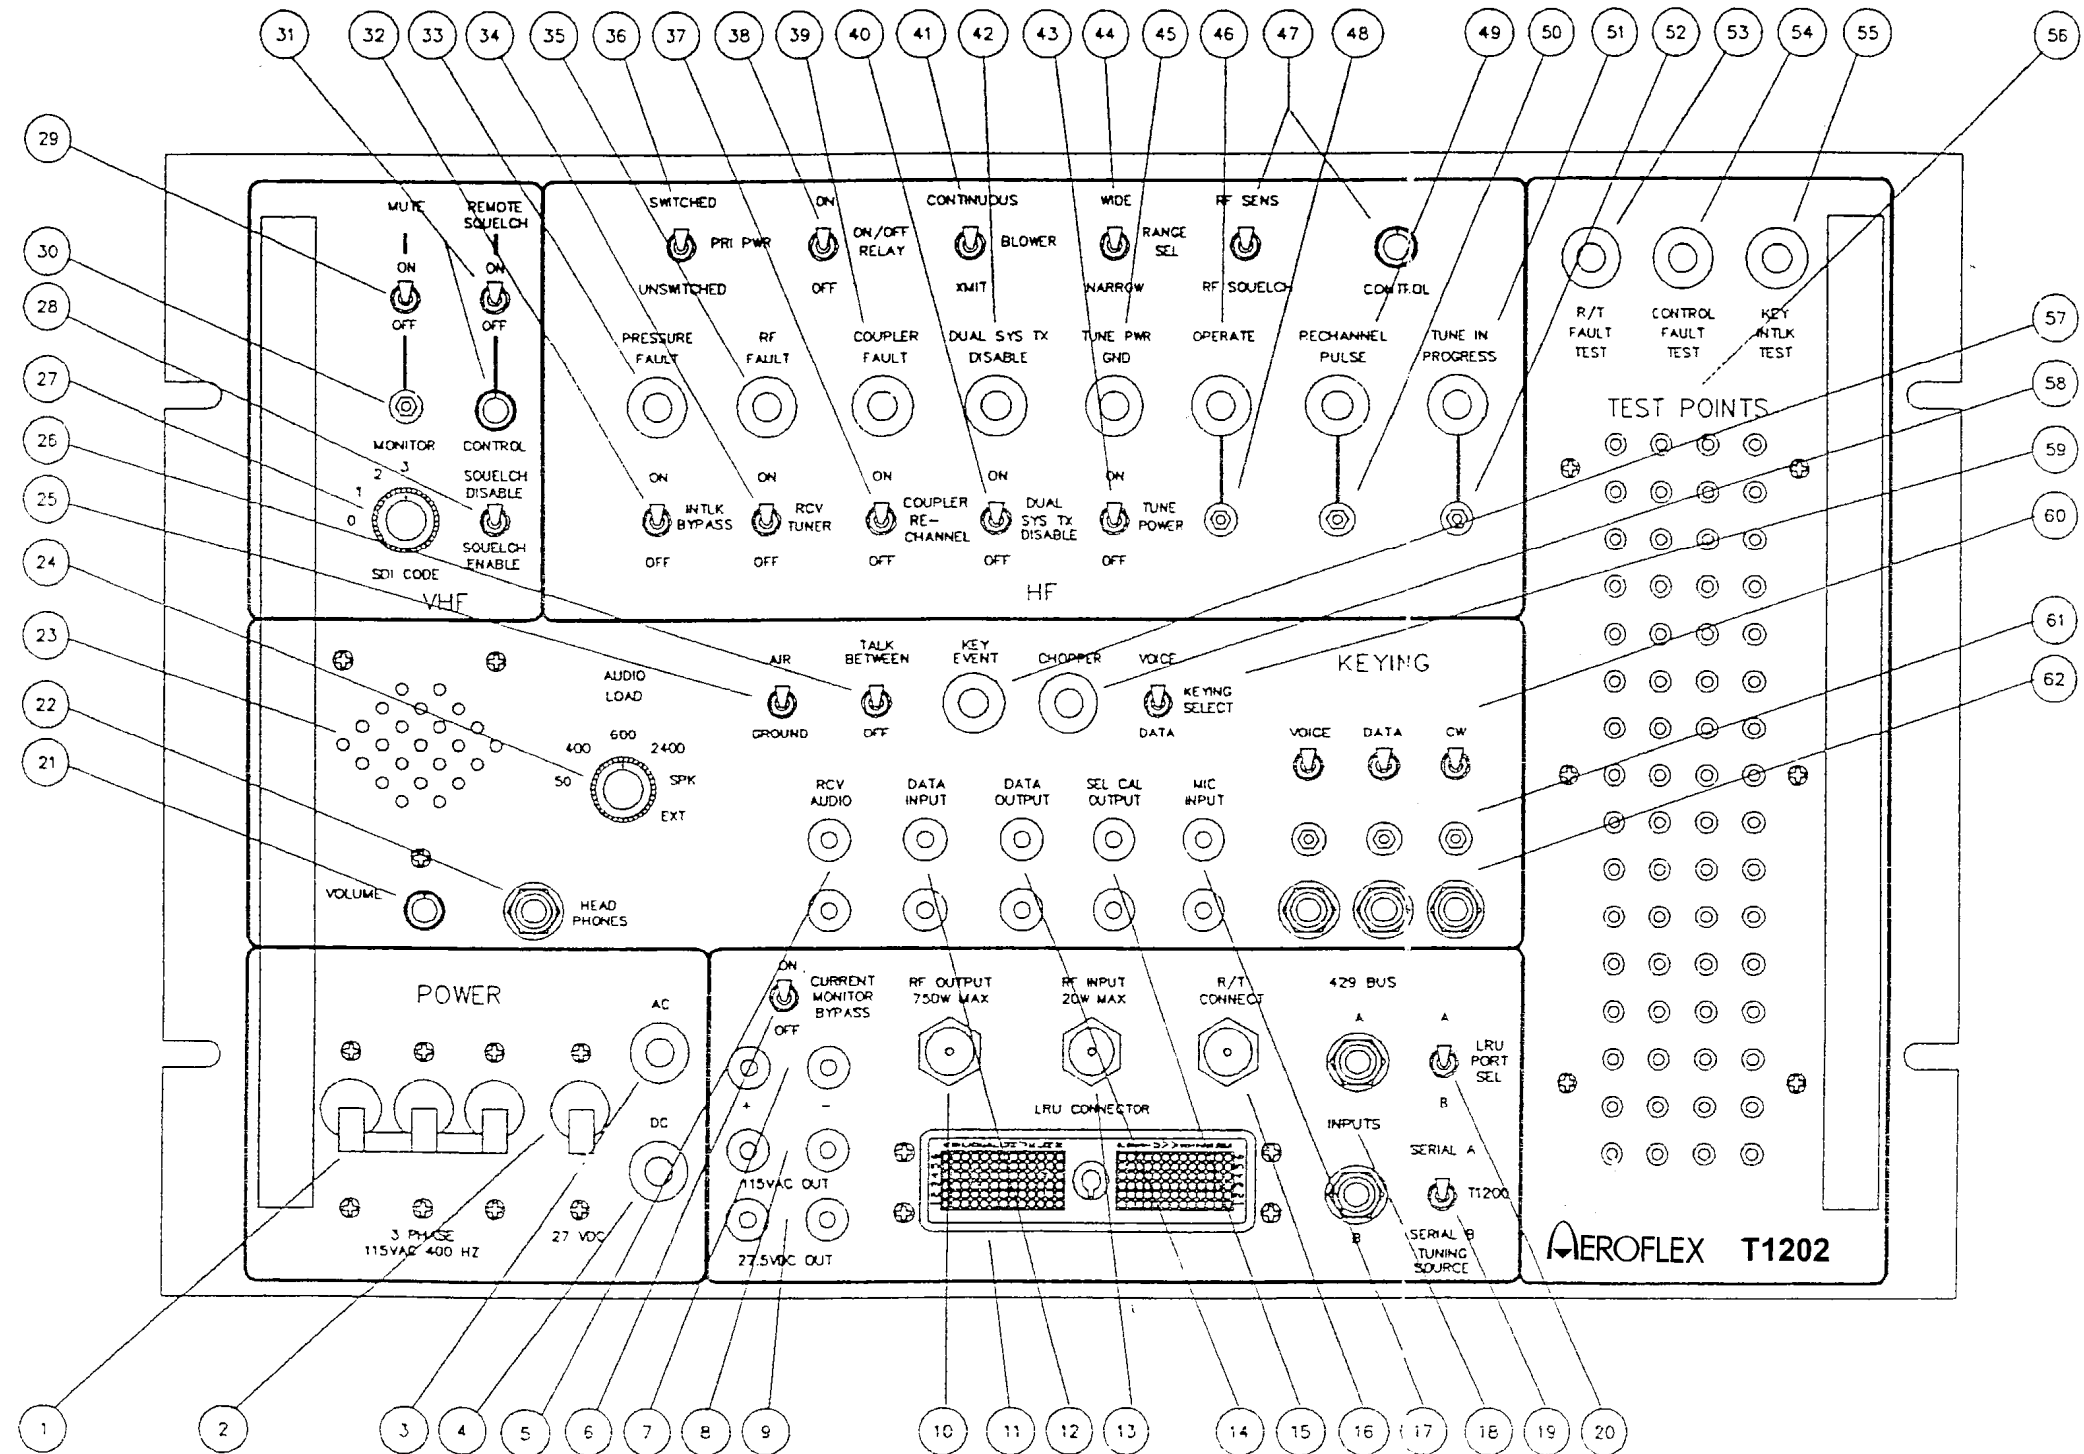

Fig. 3-1: T1202 Controls – Front Panel
3.2.1 CONTROLS – FRONT PANEL (see Fig. 3-1)